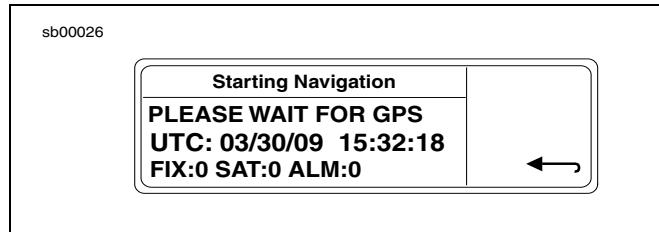

Figure 1. PLEASE WAIT FOR GPS Display
2. Press and hold the NAV push button to display the NAV Setup menu (1).
4. See Figure 1. If the Advanced Audio System Navigation continuously displays PLEASE WAIT FOR GPS message, refer to the electrical diagnostic manual.